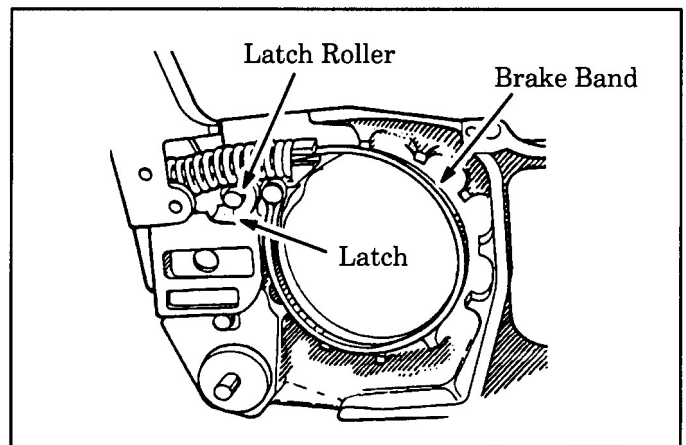

Figure 44
2. **Clean entire mechanism thoroughly** and apply a good quality lubricating grease to the latch and latch roller every 10 tanks of fuel or every 5 hours of operation, whichever is less. *Do not allow oil or grease to get on band or drum.* Figure 44.